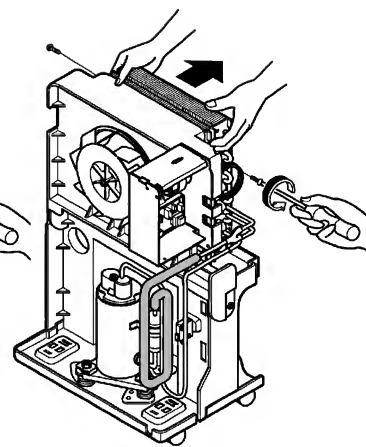

Figure 27
6. Remove the H/E assembly from the orifice. (See Figure 27)